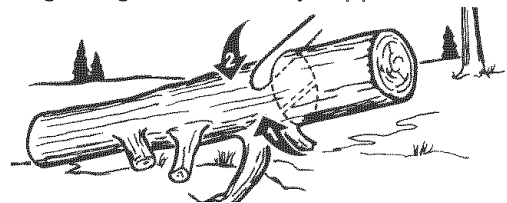

Fig. 14
2. Log supported on 1 end: First, cut from bottom (underbuck) 1/3 diameter of log to avoid splintering. Second, cut from above (overbuck) to meet first cut and avoid pinching (Fig. 14).